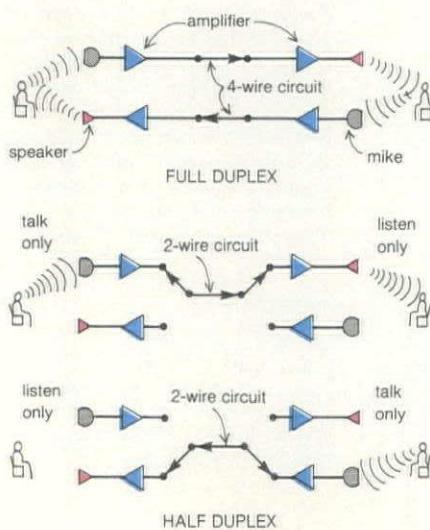

Figure 16
The ability to talk and listen simultaneously implies circuitry known as full duplex (FDX). FDX systems allow signals to move in both directions at the same time, as opposed to half-duplex (HDX) systems, in which the line must be turned around each time the signal direction changes (Figure 16). In teleconferencing, the full-duplex concept has become known as open audio because it leaves the lines open in both directions. This allows natural, two-way conversation, with performance similar to that of a standard telephone handset.
*To allow participants at both ends to talk and listen at the same time in a natural fashion, a teleconferencing installation needs a full-duplex, or open audio, system (Figure 16), in contrast with the half-duplex system familiar to users of Speakerphones. At the same time, however, the room must be carefully designed with respect to acoustics so that echoes inside do not set up acoustic feedback howls (Figure 17). Design must also guard against intrusive noises that might enter the room either as structure-borne and air-borne sound or by barrier transmission (Figure 18).*